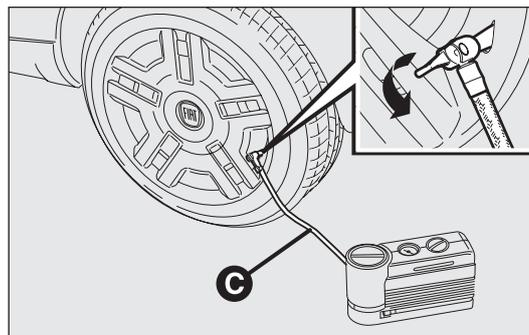

fig. 175
- Undo the cap for the tyre valve, extract the pipe C-fig. 175 with the quick connector and connect it directly to the valve of the tyre to be inflated.